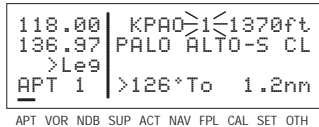
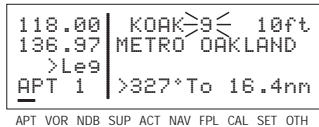

Figure 4-73
Figure 4-74
The nearest list is positioned in front of the complete list. That is, you must scan backwards (turn the knob counterclockwise) through the complete list to reach the nearest list. You will know when you have reached the nearest list because the top middle portion of the waypoint page will flash the relative position of the waypoint to your position. “1” indicates nearest (figure 4-73) while “9” indicates the ninth nearest (figure 4-74). As you scan clockwise with the right inner knob “1, 2, 3, ..., 9”, the next scan position is the beginning of the complete list. The nearest list can only be reached by scanning backwards. It does not wrap around after the last waypoint in the complete list.
2. The waypoint page for the nearest airport is now displayed on the screen. The right inner knob (in the “out” position), may now be used in the normal manner to scan the other nearest airports. With the right inner knob in the “in” position, you may view all three airport pages for a specific airport. **Figures 4-73 and 4-74** show examples of nearest APT 1 pages.